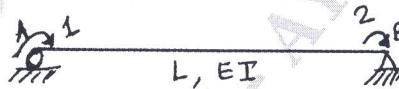

Fig.Q1(c)
- c. Develop the flexibility matrix in the beam shown in Fig.Q1(c) with respect to the co-ordinates indicated. (10 Marks)